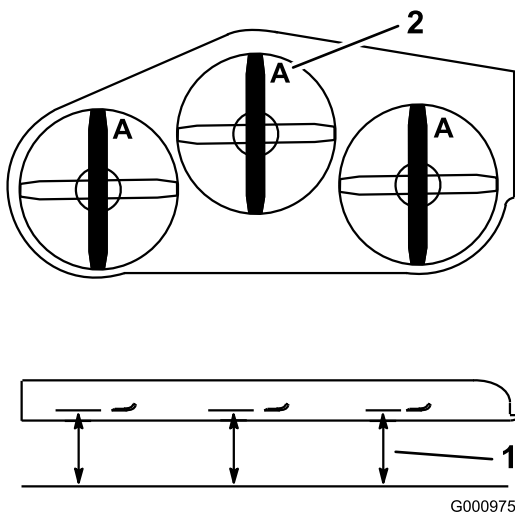
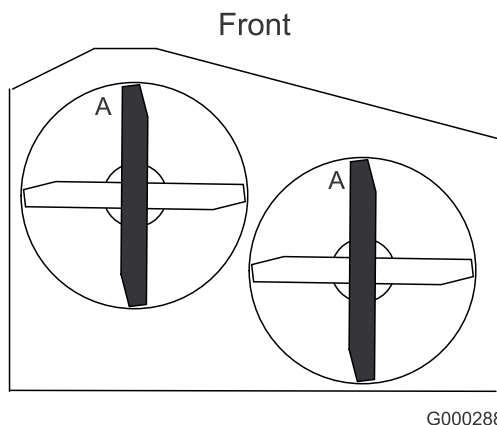

Figure 54
Figure 55
3. Rotate the blades until the ends face forward and backward. Measure from a level surface to the cutting edge, position **A**, of the blades (Figure 54). Note this dimension. For 36 inch mower decks use Figure 55.